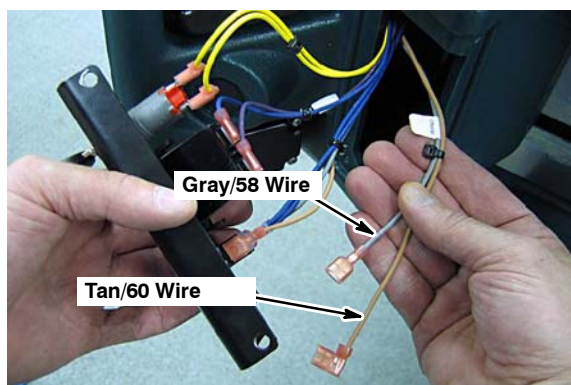

Fig. 9
14. Locate the gray/58 and tan/60 wires from inside the switch console (Figure 9). The wires will be identified with a tag labeled "WAND".